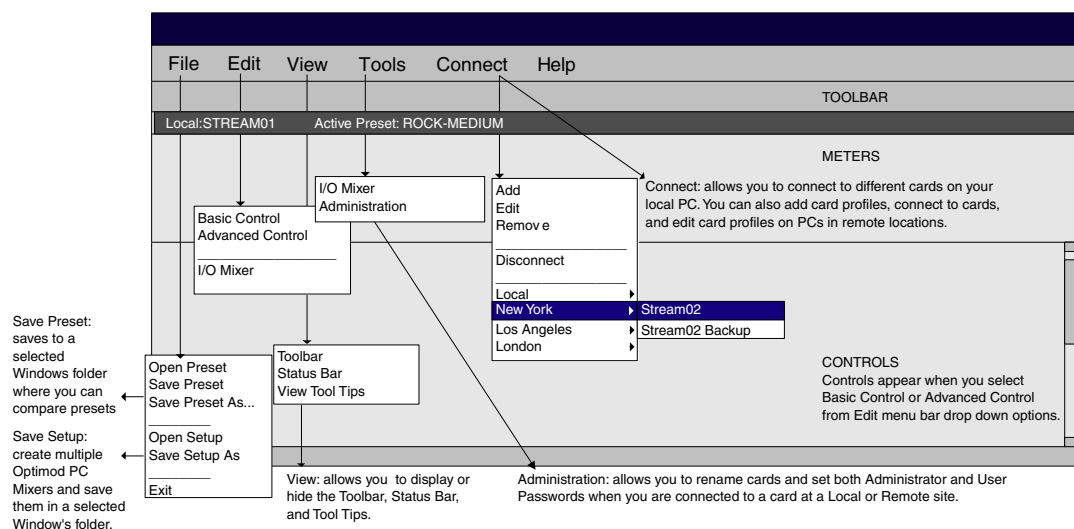

Figure 2-3: The Orban Control Application
- A) Start the OPTIMOD-PC control application, `Optimod.exe`, by clicking its icon (“agent”) in your computer’s system tray, or from Start > Programs > Orban > OPTIMOD-PC. (See *Figure 2-3* on page 2-6.)